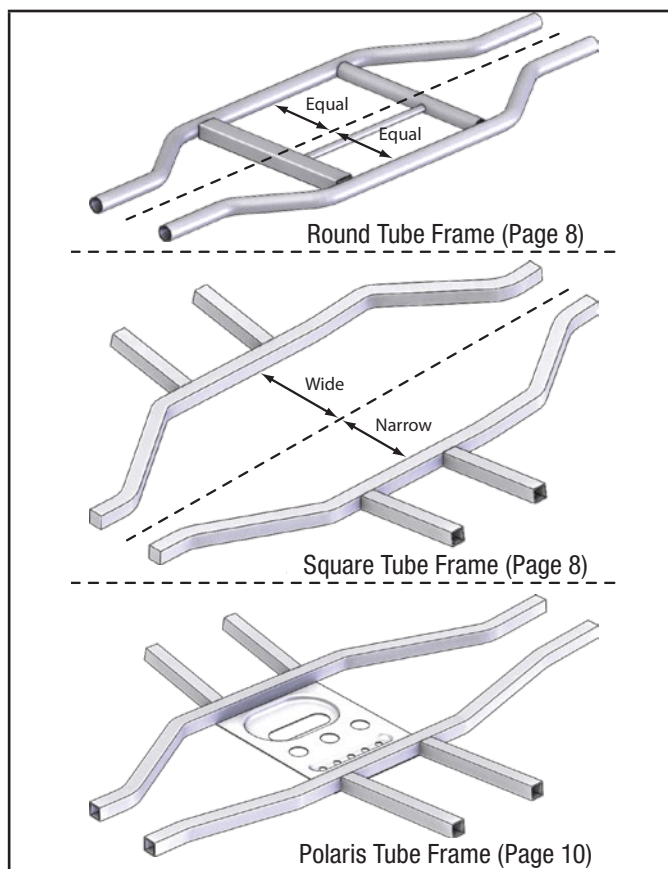

Figure 15 - Tube Frame Type
1. Be sure that when installing the mount it is centered on your machine. Some frames are not perfectly centered as shown in Figure 15.